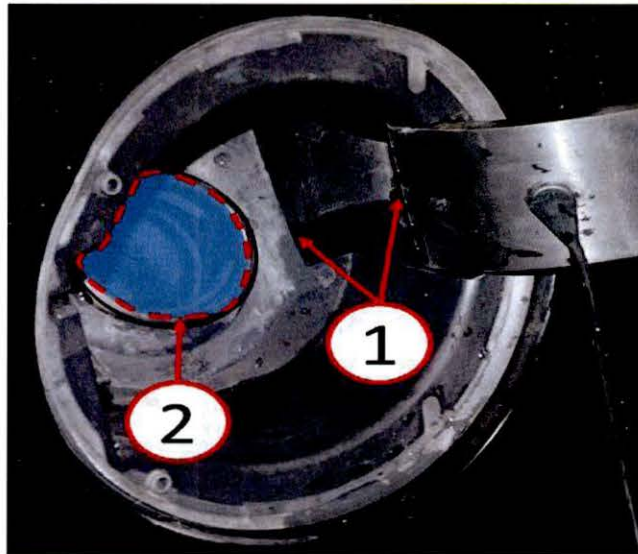

Fig. 1 Fuel Filler Hinge Pocket
4. Drill two 6mm (1/4") holes at the hinge pocket corner locations shown in (Fig. 1).